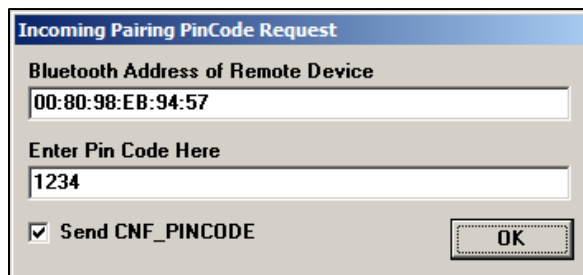

Figure 33: Incoming Pairing PinCode Request window
- c. In the pop-up dialog box, click **Ok** to complete the pairing (Figure 33).